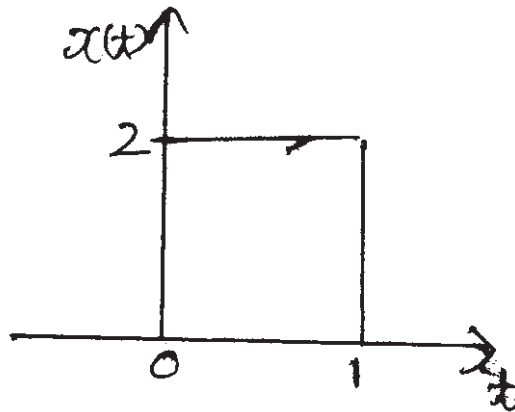

figure 2
b) Find $X(w)$ for the given signal, (Refer to figure 2). [4]